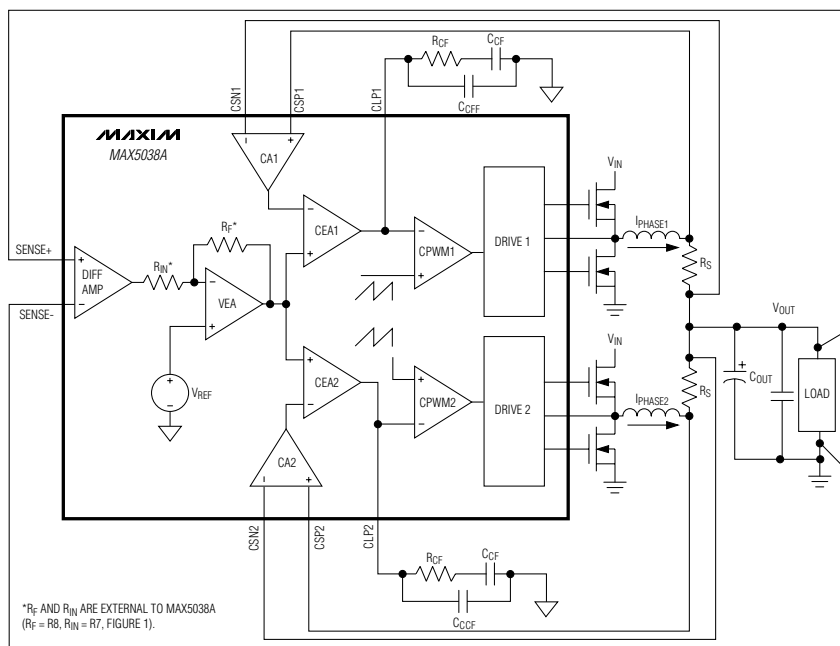

Figure 3a. MAX5038A Control Loop
The MAX5038A/MAX5041A use an average-current-mode control scheme to regulate the output voltage (Figures 3a and 3b). The main control loop consists of an inner current loop and an outer voltage loop. The inner loop controls the output currents (I_{PHASE1} and I_{PHASE2}) while the outer loop controls the output voltage. The inner current loop absorbs the inductor pole reducing the order of the outer voltage loop to that of a single-pole system.
The outer voltage control loop consists of the differential amplifier (DIFF AMP), reference voltage, and VEA. The unity-gain differential amplifier provides true differential remote sensing of the output voltage. The differential amplifier output connects to the inverting input (EAN) of the VEA. The noninverting input of the VEA is internally connected to an internal precision reference voltage. The MAX5041A reference voltage is set to +1.0V and the MAX5038A reference is set to the preset output voltage. The VEA controls the two inner current loops (Figures 3a and 3b). Use a resistive feedback network to set the VEA gain as required by the adaptive voltage-positioning circuit (see the *Adaptive Voltage Positioning* section).
Each phase of the MAX5038A/MAX5041A has a dedicated transconductance current-error amplifier (CEA_) with a typical g_m of 550 μ S and 320 μ A output sink and source current capability. The current-error amplifier outputs, CLP1 and CLP2, serve as the inverting input to the PWM comparator. CLP1 and CLP2 are externally accessible to provide frequency compensation for the inner current loops (Figures 3a and 3b). Compensate CEA_ such that the inductor current down slope, which becomes the up slope to the inverting input of the PWM comparator, is less than the slope of the internally generated voltage ramp (see the *Compensation* section).
The differential amplifier (DIFF AMP) facilitates output voltage remote sensing at the load (Figures 3a and 3b). It provides true differential output voltage sensing while rejecting the common-mode voltage errors due to high-current ground paths. Sensing the output voltage directly at the load provides accurate load voltage sensing in high-current environments. The VEA provides the difference between the differential amplifier output (DIFF) and the desired output voltage. The differential amplifier has a bandwidth of 3MHz. The difference between SENSE+ and SENSE- regulates to the preset output voltage for the MAX5038A and regulates to +1V for the MAX5041A.
The VEA output clamps to +0.9V (plus the common-mode voltage of +0.6V), thus limiting the average maximum current from individual phases. The maximum average-current-limit threshold for each phase is equal to the maximum clamp voltage of the VEA divided by the gain (18) of the current-sense amplifier. This allows for accurate settings for the average maximum current for each phase. Set the VEA gain using R_F and R_{IN} for the amount of output voltage positioning required as discussed in the *Adaptive Voltage Positioning* section (Figures 3a and 3b).
Average-current-mode control has the ability to limit the average current sourced by the converter during a fault condition. When a fault condition occurs, the VEA output clamps to +0.9V with respect to the common-mode voltage ($V_{CM} = +0.6V$) and is compared with the output of the current-sense amplifiers (CA1 and CA2) (see Figures 3a and 3b). The current-sense amplifier's gain of 18 limits the maximum current in the inductor or sense resistor to $I_{LIMIT} = 50mV/R_S$.